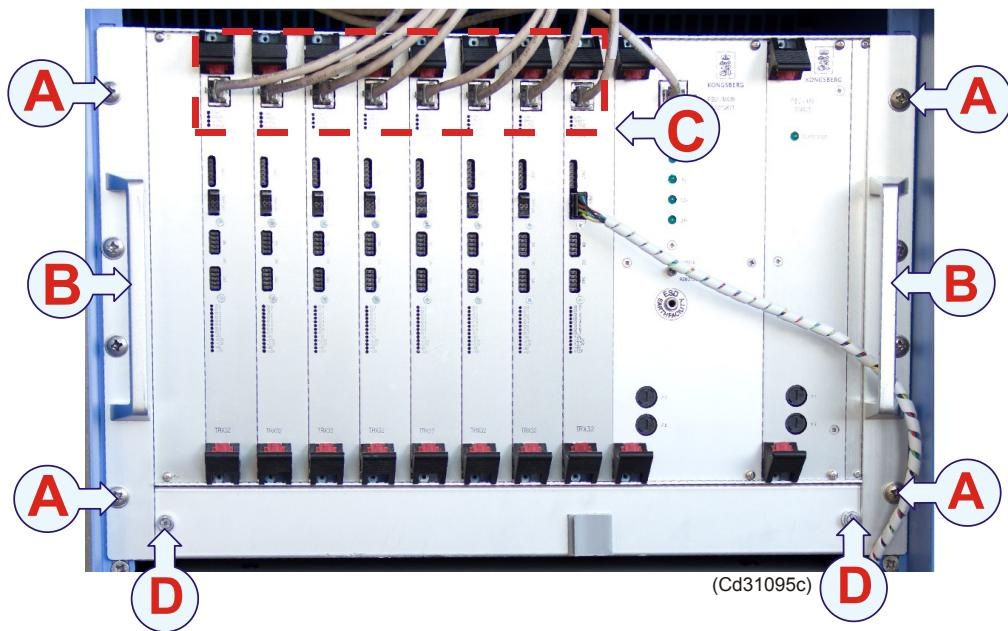

Figure 23 Retrofit Transceiver unit PCB rack
- 2 Remove the two screws (D) in the front.
- *See Figure 23 on page 58*